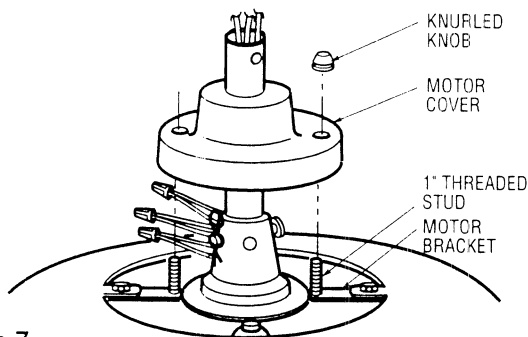

Figure 7
- Screw the two threaded studs (select the proper length stud as described in the Ceiling Fan Owner's Manual) into the motor brackets. (Figure 6). Coil the wires and wire connectors around the motor coupling, then slide the motor cover over the hanger pipe and rotate the motor cover until the threaded studs protrude. Install two knurled knobs (supplied with ceiling fan) to secure the motor cover to the fan (Figure 7). All wires and wire connectors to be enclosed under motor coupling cover.